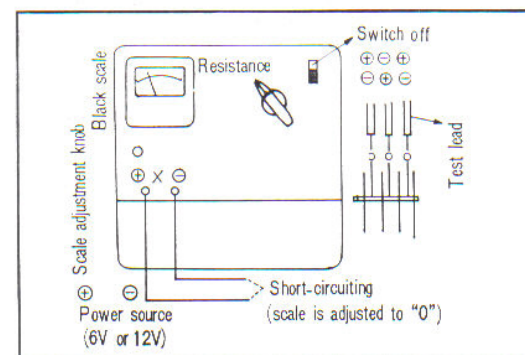

Fig. 5.94 Resistance measuring (lead wire connection)
- (1) Contact the lead wire (black), connected to terminal X to (+) (red) terminal of the (-) terminal of the selenium. The rectifier's positive resistance can then be measured. (Fig. 5.94)